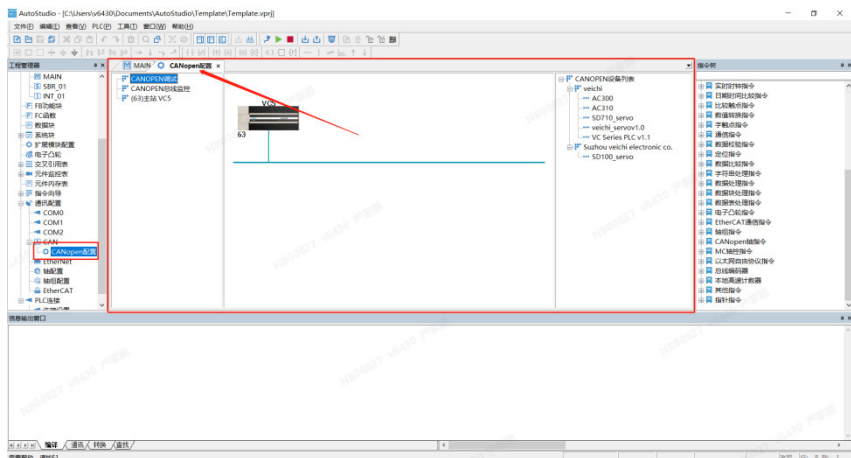

Figure 3-12 CANopen configuration interface
Step 4: Double-click the added CANopen configuration to open and enter the CANopen configuration interface, as shown in Figure 3-12.